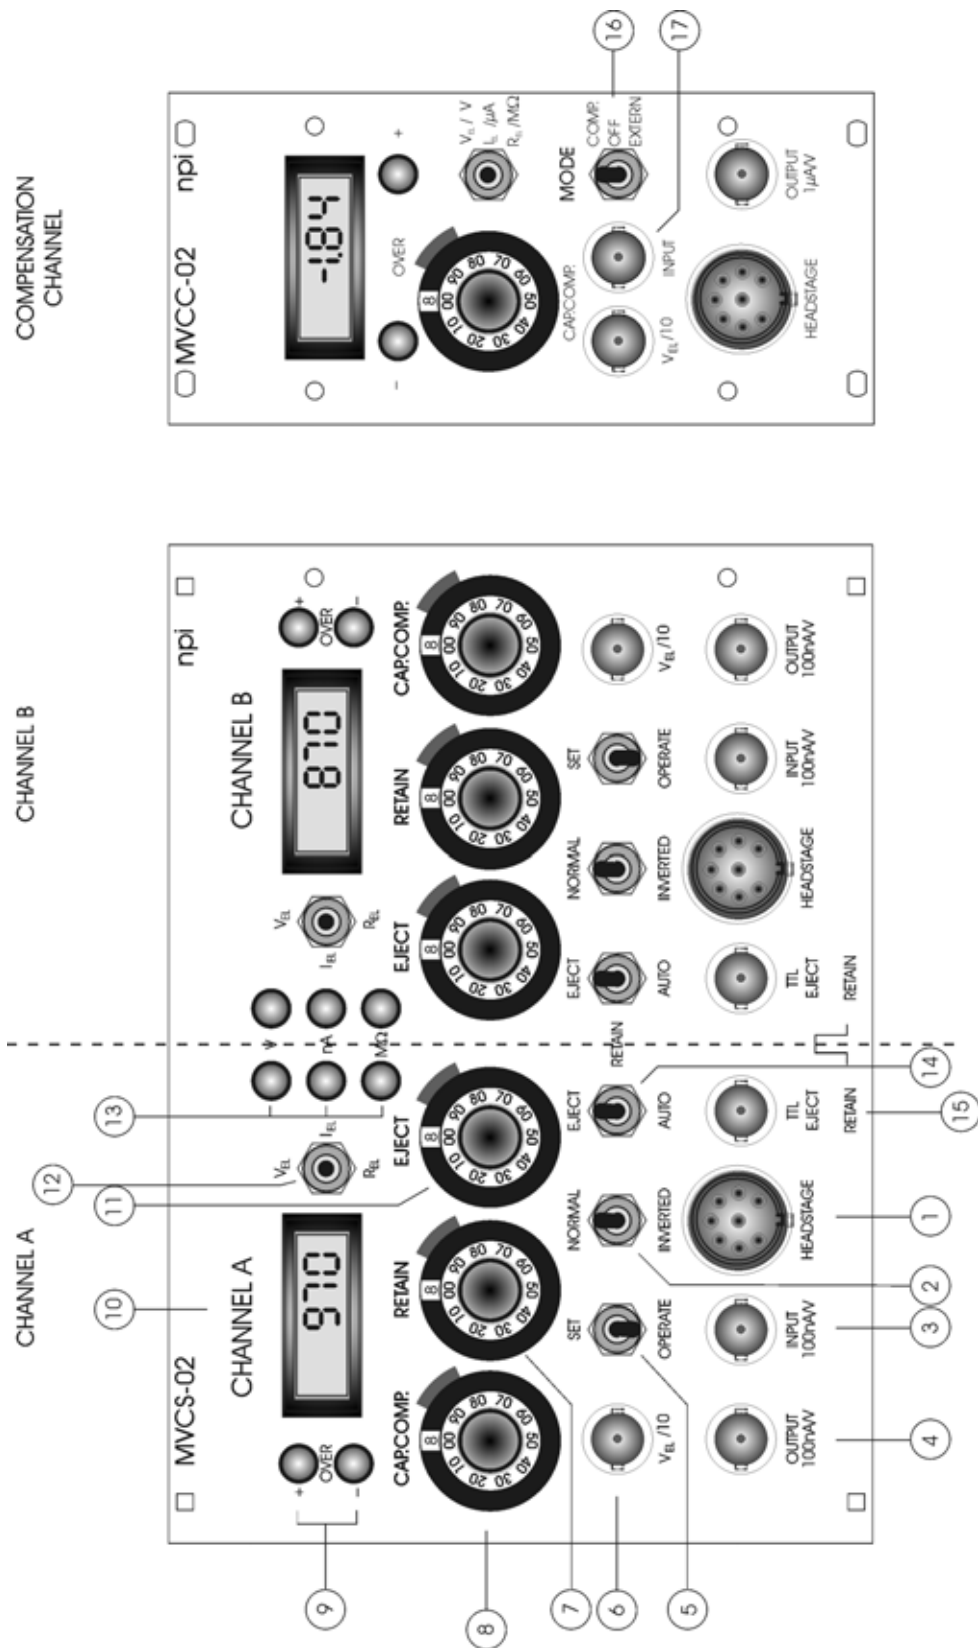

Figure 2: MVCS-C-02 / MVCC-C front panel view (the numbers are related to those in the text below)
In the following description of the front panel elements, each element has a number that is related to that in Figure 2. The number is followed by the name (in uppercase letters) written on the front panel and the type of the element (in lowercase letters). Then, a short description of the element is given.
Figure 2 shows the MVCS-C-02 / MVCC-C (fast systems) with capacity compensation and the automatic electrode resistance test facility. These two features are not present in the MVCS-02 / MVCC (slow systems). In slow systems the CAP. COMP. potentiometer is not installed and the function of  $R_{EL}$  is somewhat different (see below).
**Hint:** If one channel is not used the headstage can be left unconnected, but then the display for this channel will show anything and may change. So, we recommend to connect the headstage even if it is not used and set channel to SET mode using switch #5, Figure 2).